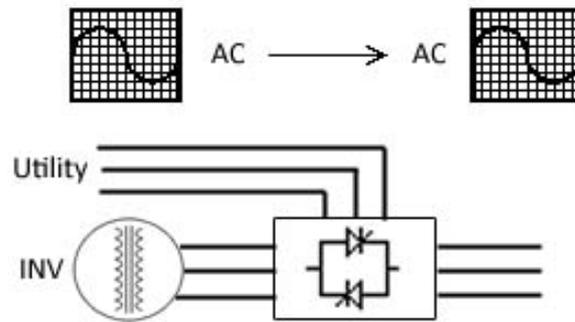

Figure 10 : STS Block Diagram
*Figure 10: STS Block Diagram* demonstrates the STS working principle briefly. The STS is designed to control the output AC power whether goes through the Inverter or directly from the utility AC power. If the UPS is normal, the output AC power will go through the Inverter and provide power for loads. If the UPS is failure or overload or over temperature, the loads will be provided by the utility AC power.